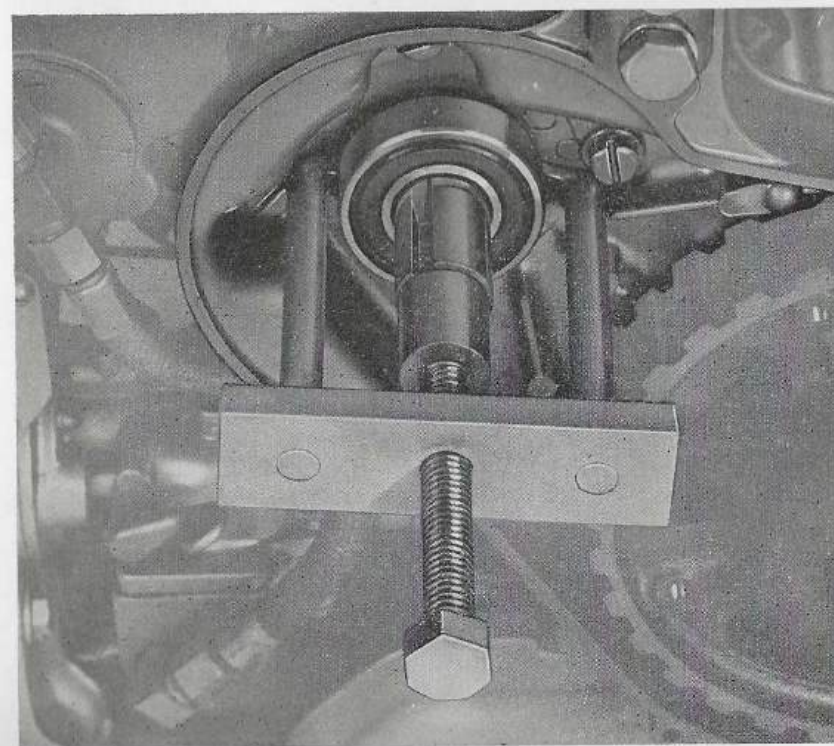

Figure 20—Pulling Rear Clutch-Drum Bearing
(5) Position puller as shown in Figure 15 and turn down on jack screw. Turn clutch drum to the right to thread drive belt off sprocket pulley. Turn down on jack screw until clutch drum is free of shaft. Remove clutch drum assembly and drive belt. If bearing remains on shaft, remove with puller as shown in Figure 20
(6) Disconnect oil line at pump end and at drive case and remove oil line. Remove the 10-32 x $\frac{3}{8}$ " round head screw and lockwasher holding fuel tank to drive case.
(7) Remove the $\frac{1}{4}$ -20 x $\frac{3}{4}$ " hex head bolt and lockwasher holding carburetor guard to drive case.
(8) Remove four $\frac{1}{4}$ -20 x $\frac{3}{4}$ " hex head screws and lockwashers (around crankshaft) holding drive case to crankcase. Angle drive case so handle will clear engine and remove case and handle together.